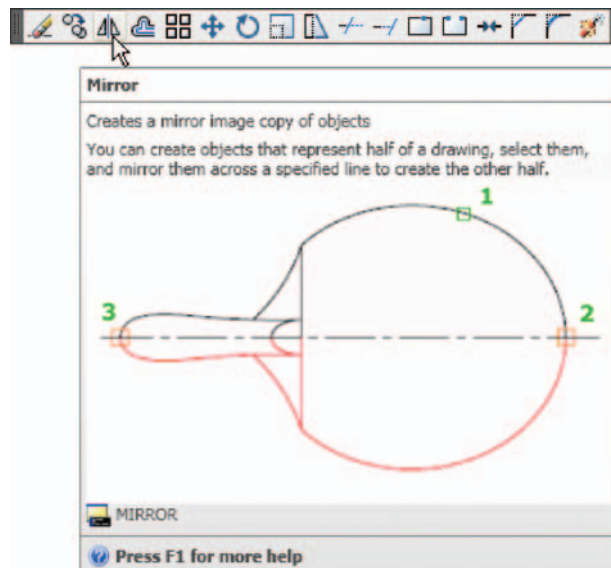

Fig. 5.7 The **Mirror** tool from the **Modify** toolbar
2. Call the **Mirror** tool – *left-click* on its tool icon in the **Home/Modify** panel (Fig. 5.7), *pick* the **Mirror** tool icon from the **Modify** toolbar, *pick* **Mirror** from the **Modify** drop-down menu, or *enter* **mi** or **mirror** at the command line. The command line shows: